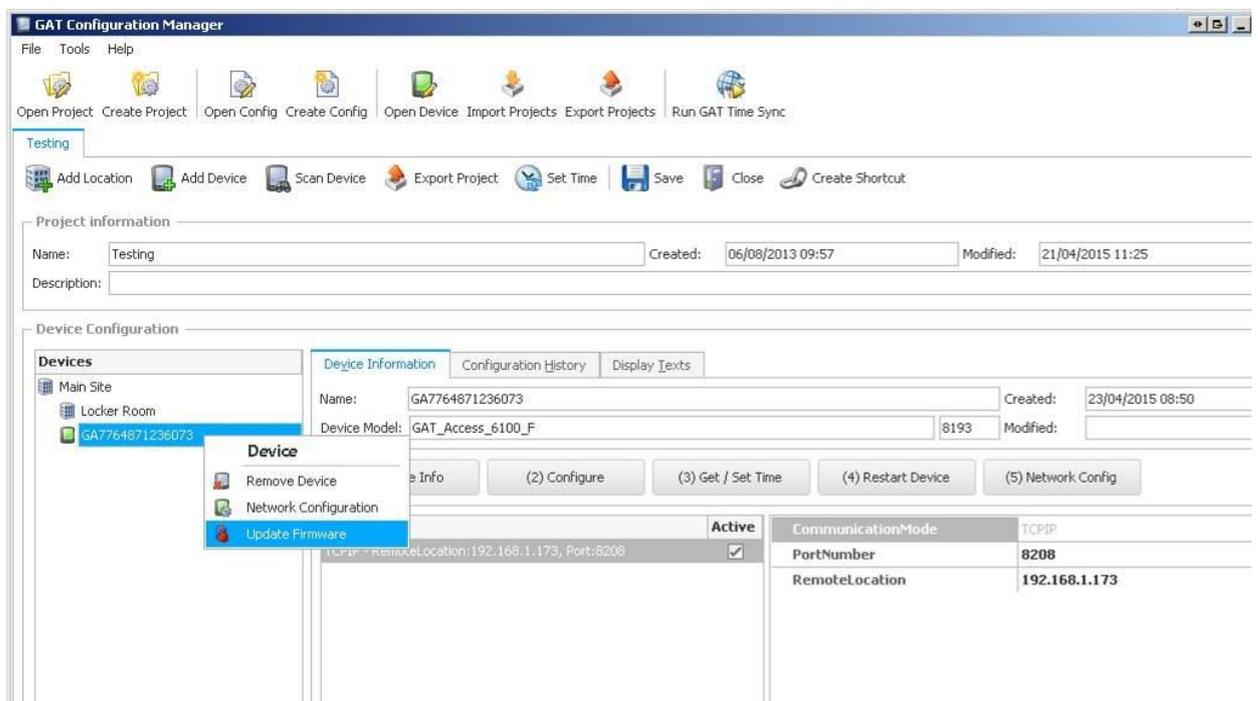

Figure 7.1 – Update the GAT Access 6100 firmware
- Right-click on the GAT Access 6100 in the device tree and select “Update Firmware” from the menu (Figure 7.1).